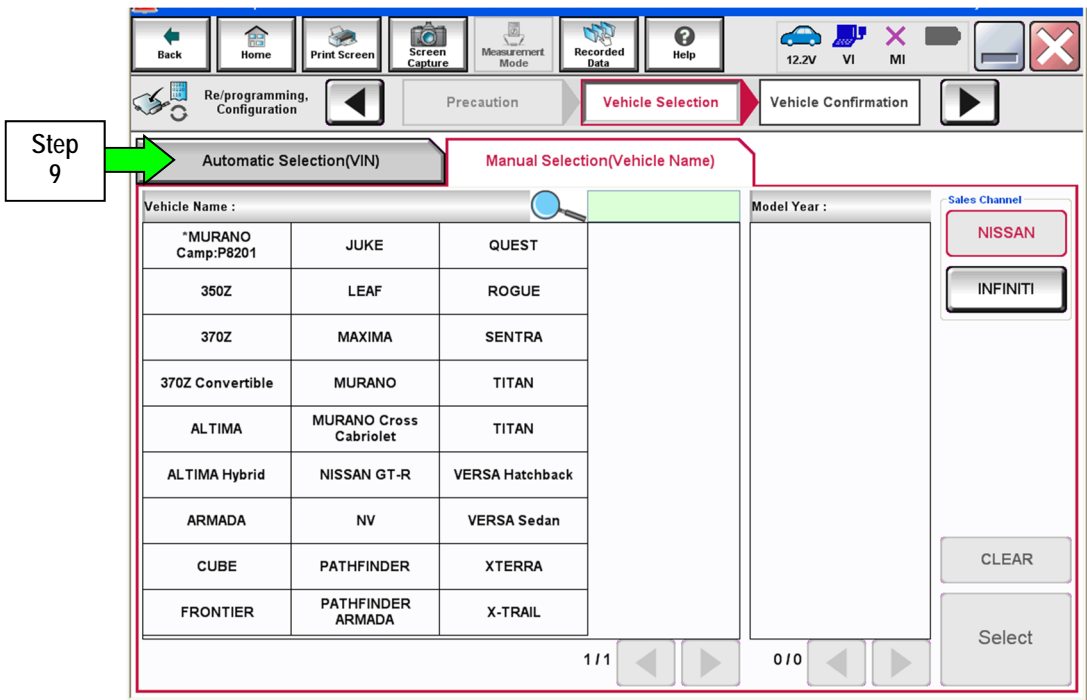

Figure 3B
9. If the screen in Figure 3B displays, select **Automatic Selection(VIN)**.
- If the screen in Figure 3B does not display, skip to step 10.